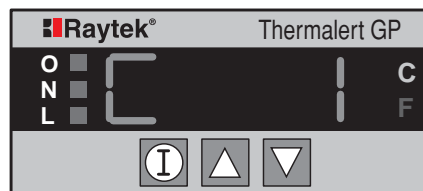

Figure 14: Degrees C Activation Display
1. Press the  button until a "C" shows in the display (Figure 14).